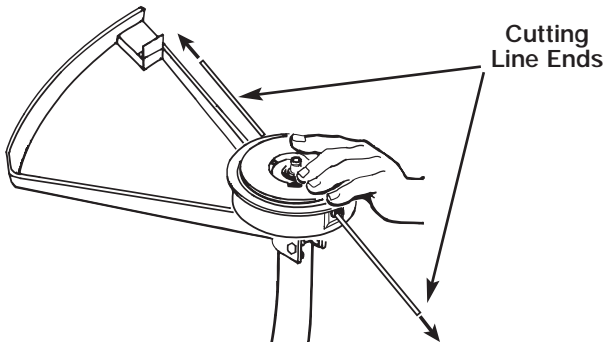

Fig. 19
9. Once the spool is in place, apply pressure on the spool that is compressing the spring. Pull each end of the line sharply to unlock the line from the slots (Fig. 19).